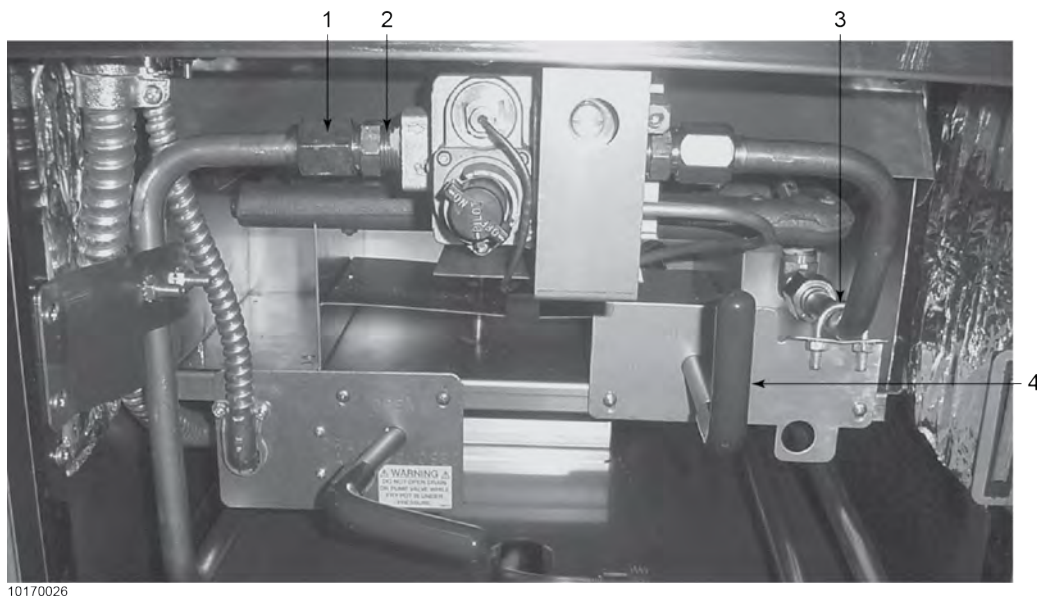

Figure 2-8 Gas Supply Connection
- 4) Disconnect gas supply line (1) from the connector (2) at control valve, see Figure 2-8 Gas Supply Connection, page 30.
- 7) Turn the filter valve rod (4) to the OPEN position, see Figure 2-8 Gas Supply Connection, page 30.
- 8) Remove the u-bolt (3) from rinse hose bracket, see Figure 2-8 Gas Supply Connection, page 30.
- 16) Connect gas supply line (1) to the gas control valve connector (2), see Figure 2-8 Gas Supply Connection, page 30.